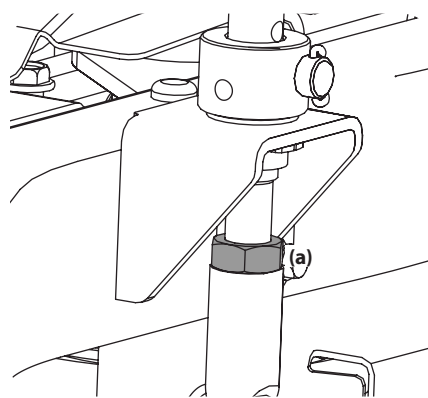

Figure 4-8
3. There are four adjustment points on the deck. Each of the deck lift adjustment pins has an adjustment bolt (a). See Figure 4-8. Raise or lower each side of the deck using the four bolts (a) until the side-to-side height is equal.
1. Raise or lower the front and/or rear of the deck using the four adjustment bolts (a) on the deck lift adjustment pins until the front of the deck is $\frac{1}{4}$ – $\frac{3}{8}$ " lower than the rear of the deck. See Figure 4-8.